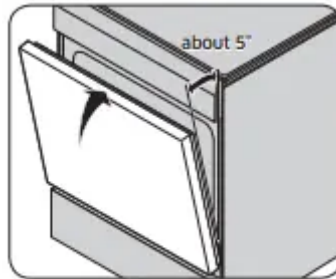

Fig. 1
4. Close the door to the door removal position, which is approximately 5 degrees from vertical (Fig.1)